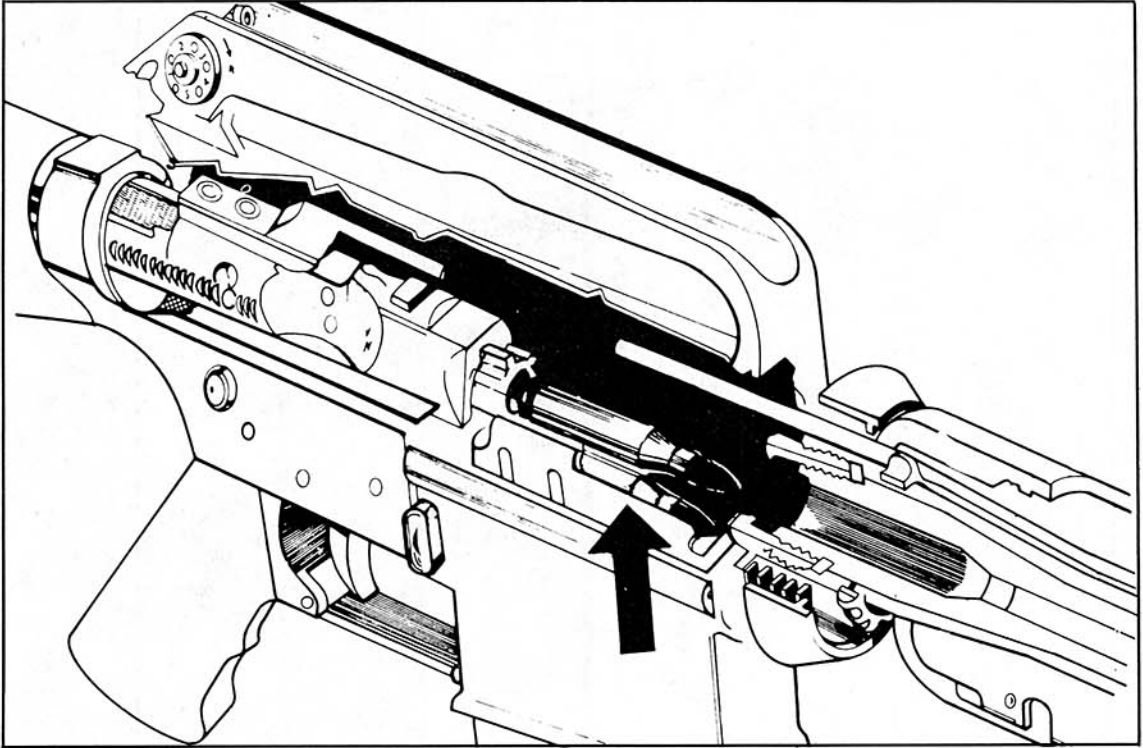

Figure 2-33 Feeding
d. The return spring forces the bolt and carrier forward. As it does so the front of the bolt pushes a round from the magazine into the chamber, see Figures 2-33 and 2-34. When the bolt has gone right forward the carrier continues causing the bolt to rotate and lock in position. The extractor grips the base of the round and the ejector is compressed when the bolt is fully home.